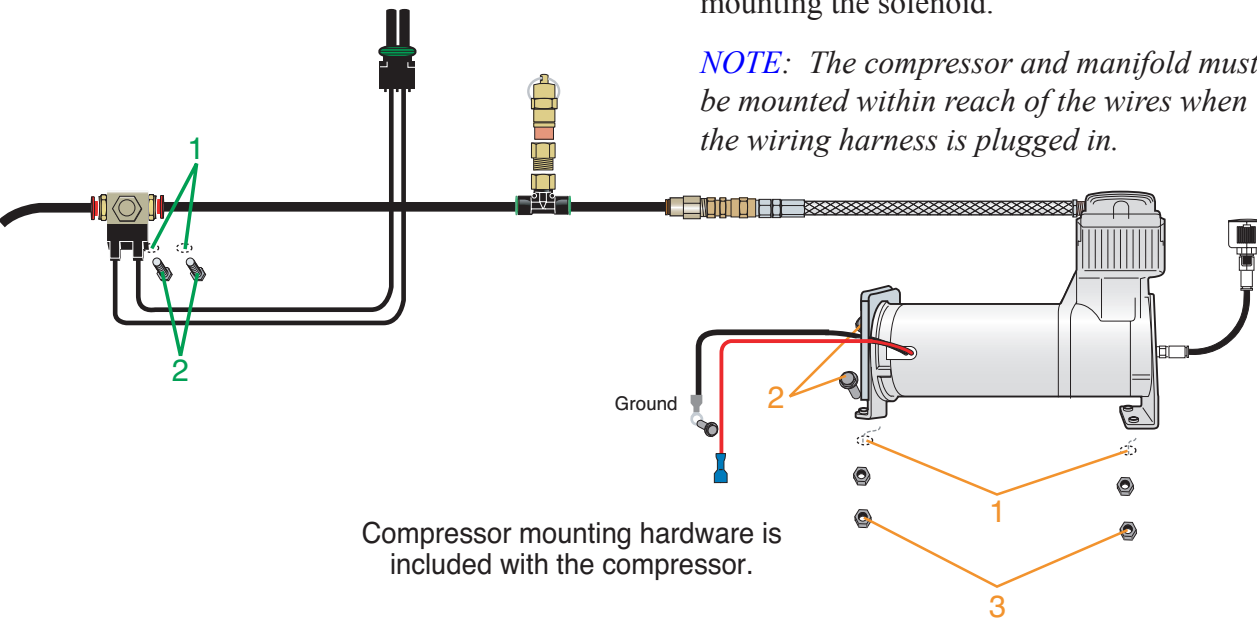

Figure 1
2. Select a rigid mounting location on your vehicle's frame or crossmember that shields the compressor from the elements and heat sources (Figure 1).
3. Cut a length of air line and attach one end of the air line to the compressor fitting. Attach the other end of the air line to one of the push-to-connect fittings on the tee of the pressure relief valve assembly (Figure 1).
5. Attach the compressor and solenoid to the frame rail or crossmember using Figure 1 as a guide.
6. Mount the solenoid as close to the compressor or air spring as possible (Figure 1). Use the template on the back of the manual for mounting the solenoid.